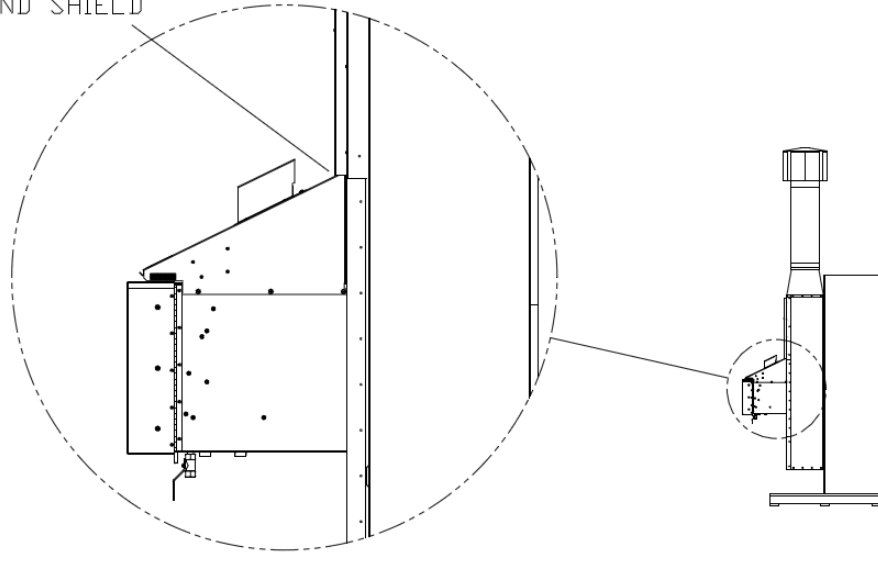

Figure 2 P-5050 & P-5100 Rain Cap Position in Heat Recovery System
- Remove the Actuator Cover screws and the actuator cover. Store in a safe area. Item H15, Figure 2
- Remove damper linkages at damper control arms. Item H7, Figure 2
- Remove and retain screws from the wrapper. Item H1, Figure 2
Position frame on exterior wall in desired location. Item H2, Figure 2
- Re-install the Wrapper on the frame using the supplied screws. Item H1, Figure 2
- Position cover over actuator assembly and linkages, then reattach to wrapper using the supplied screws. Items H1 & H15, Figure 2
- P-5050/P-5100 System: Reinstall the Exhaust stack and Rain Cap on the TEG. Ensure that the rain cap vents are inside the duct attached to the front of the wrapper. Figure 2